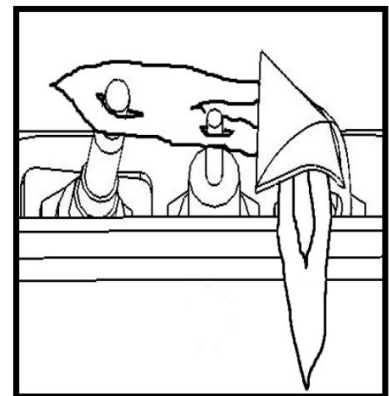

FIG. 2
4. Wait five (5) minutes to clear out any gas. Then smell for gas including near the floor. If you smell gas, STOP! Follow "B" in the safety information above. If you don't smell gas, proceed to step 5.
6. Continuing beeps confirm the ignition is in process. Once lighting the pilot flame should appear as shown in Fig.2. Once the pilot is confirmed, the main burner ignites on high.
For your safety, this appliance is fitted with a flame supervision device which will shut-off the gas supply if, for any reason, the pilot flame goes out. This device incorporates a fixed probe, which senses the heat from the pilot flame. If the probe is cool, the device will prevent any gas flow unless manually lighting the pilot. See full lighting instructions. Periodically check the pilot and burner flames, comparing them to figure 2 on the preceding page, and the image at the bottom of this page.